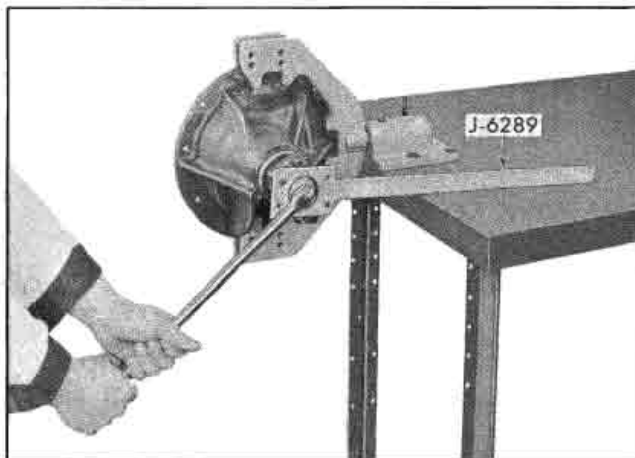

Fig. 4-49 Tightening Drive Pinion Nut
20. Using companion flange holding tool J-6289, tighten the nut a little at a time (Fig. 4-49), stopping frequently to turn the pinion several revolutions to seat rollers and to check turning effort with pound-inch torque wrench KMO-652. Repeat until torque required to keep turning is as follows: